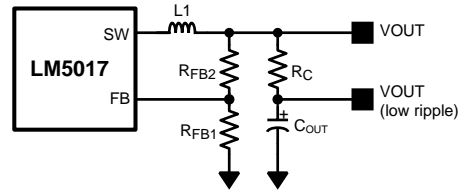

Figure 13. Low Ripple Output Configuration
This regulator regulates the output voltage based on ripple voltage at the feedback input, requiring a minimum amount of ESR for the output capacitor (C_{OUT}). A minimum of 25mV of ripple voltage at the feedback pin (FB) is required for the LM5017. In cases where the capacitor ESR is too small, additional series resistance may be required (R_C in Figure 13 Low Ripple Output Configuration).
For applications where lower output voltage ripple is required the output can be taken directly from a low ESR output capacitor, as shown in Figure 13 Low Ripple Output Configuration. However, R_C slightly degrades the load regulation.